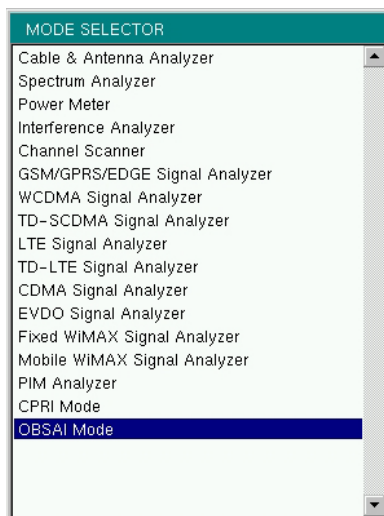

Figure 1-1. Mode Selector Dialog Box
1. Press the **Shift** front panel key, followed by **Mode (9)**. The Mode Selector dialog opens.
2. Use the arrow keys or rotary knob, or tap the touch screen to highlight the desired measurement mode. The list of available applications depends on the options that are installed and activated on your instrument. See Figure 1-1.